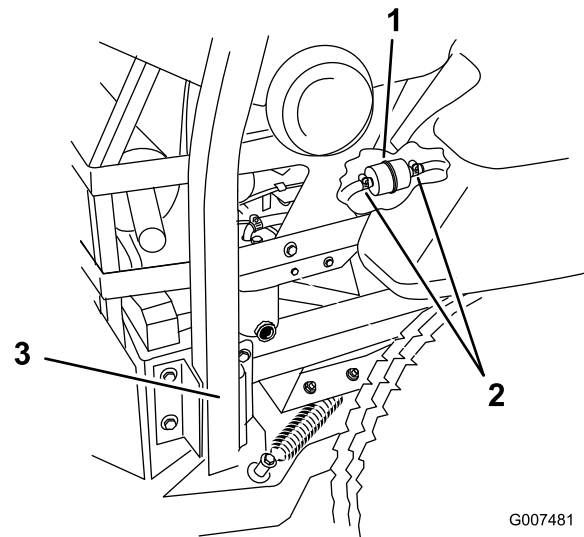

Figure 16
5. Loosen the two hose clamps and disconnect the fuel lines from the fuel filter (Figure 16).